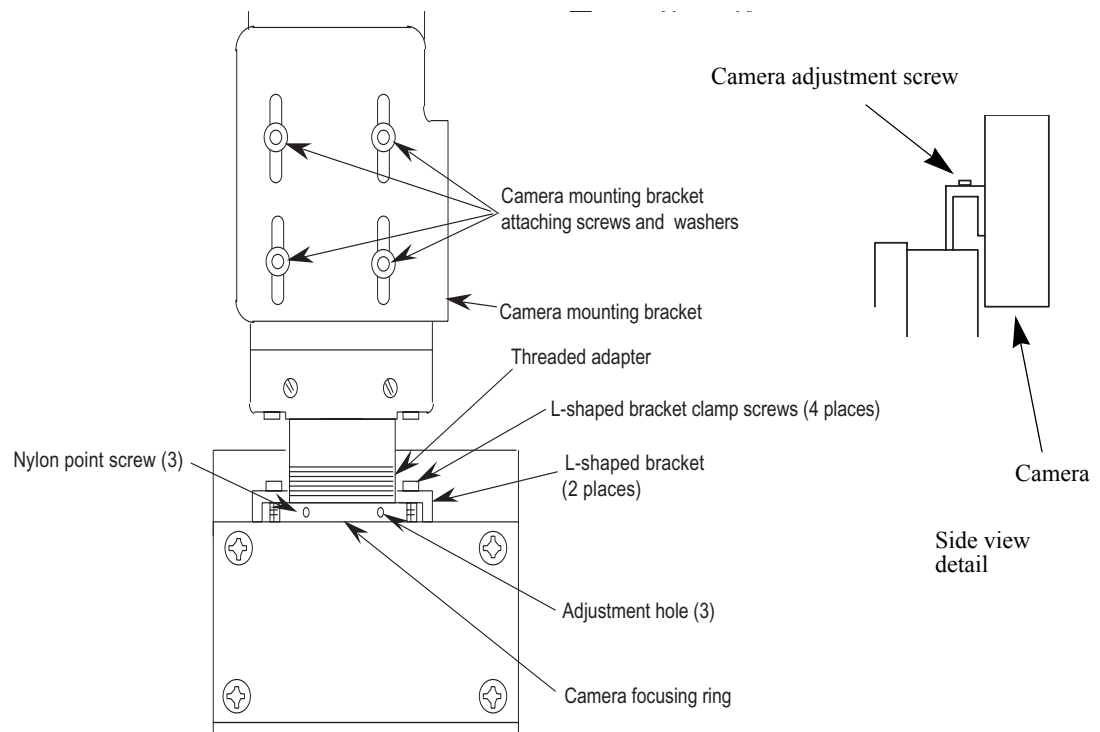

Figure 8-1 Front View of Camera Optics Assembly
2. Loosen the two L-shaped clamps that secure the threaded camera tube onto the illuminator housing; see Figure 8-1.